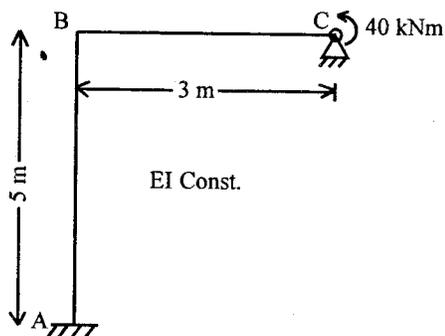

Fig. 5
- (b) Using the displacement method, analyse the frame shown in Fig. 5 and draw the B.M. diagram. Take EI as constant throughout.